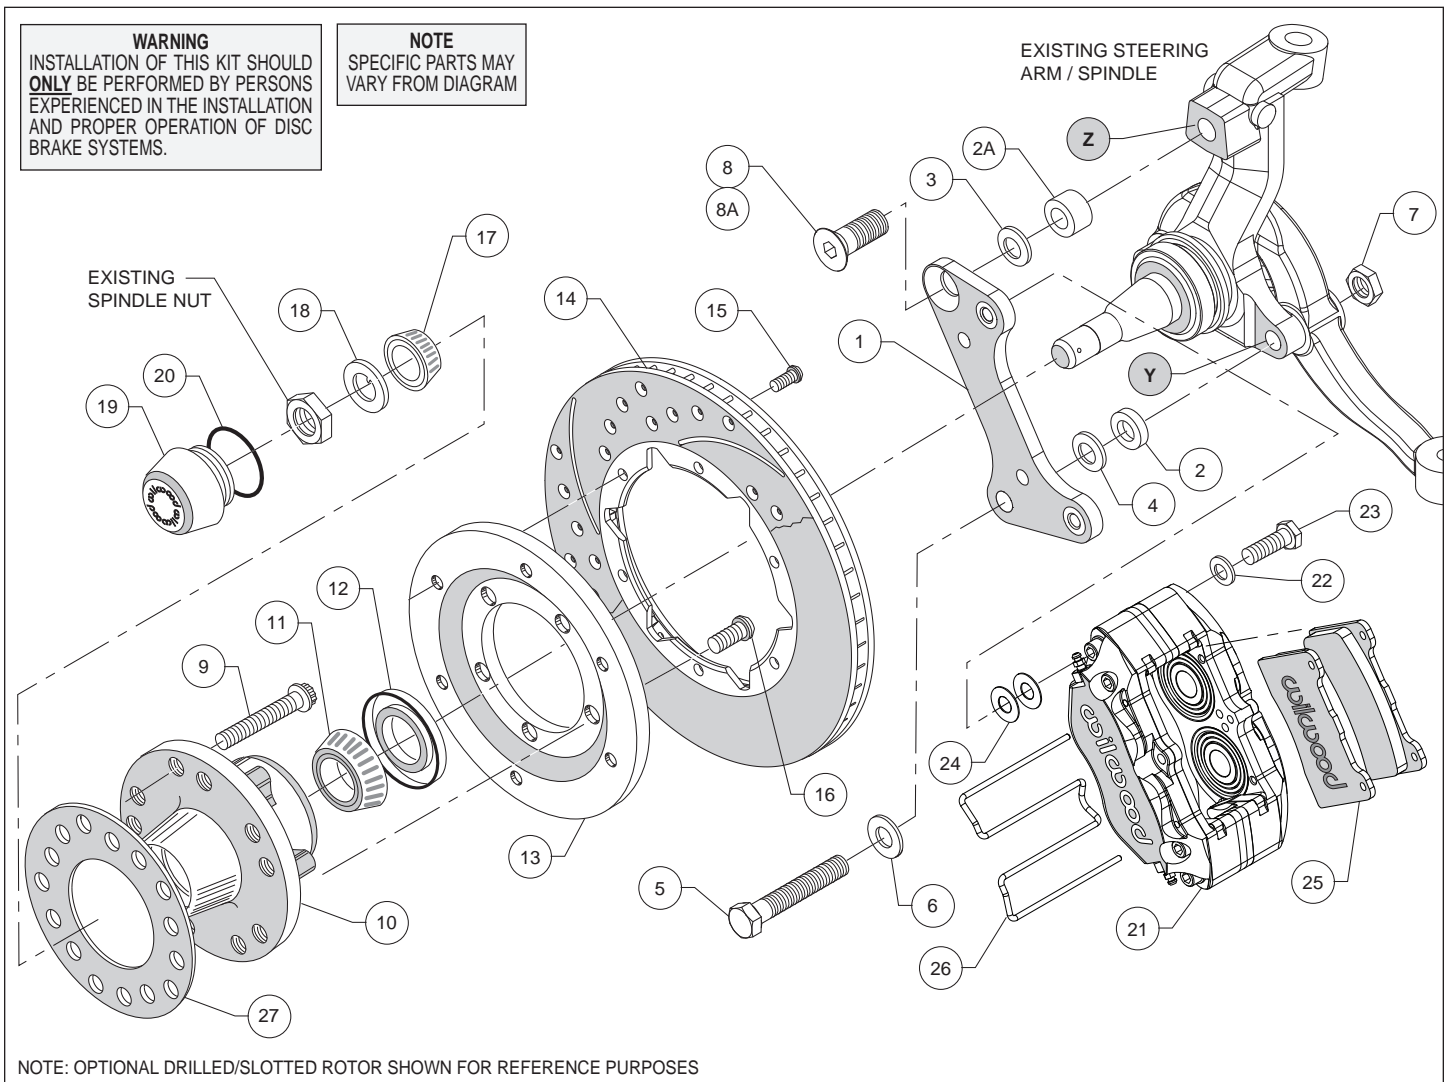
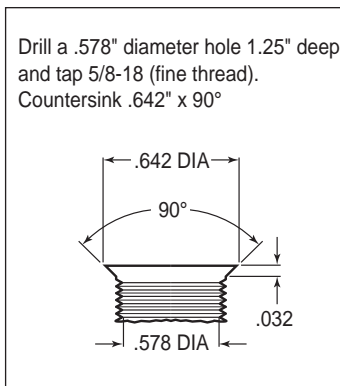

Figure 1. Typical Installation Configuration
Figure 3. Drill and Tap Detail
Assembly Instructions (numbers in parenthesis refer to the parts list and Figure 1 on the preceding page): **CAUTION:** All mounting bolts must fully engage clinch nuts. Be sure to check that all bolts are either flush or protruding through flanged side of clinch nut after shimming, Figure 4.
•**NOTE:** 1964-66 spindles may require the following modifications (reference Figure 1 and Figure 3): Top anchor pin hole (Z) must be drilled and tapped to the dimensions as outlined in Figure 3. Bottom rear steering arm bolt hole (Y) in the spindle and steering arm must be enlarged to .50" by drilling.
- Pack the large inner bearing cone (11) with high temperature disc brake bearing grease (available from your local auto parts store) and install into the backside of the hub (10), Photo 2.
- Install the grease seal (12) by pressing into the backside of the hub (10), flush with the end of the hub, Photo 2.
- Orient the rotor (14) and the rotor adapter (13) as shown in Figure 1 and Photo 3. Attach the rotor to the adapter using bolts (15). Using an alternating sequence, apply red *Loctite*® 271 to the threads, and torque to 25 ft-lb.
- Mount the adapter/rotor assembly (13/14) to the hub (10) using bolts (16), as shown in Figure 1 and Photo 4. Using an alternating sequence, apply red *Loctite*® 271 to the threads, and torque to 55 ft-lb.
- Attach caliper mounting bracket (1) to spindle face using lower bolt (5), washer (6), and a .090" thick spacer (2) positioned between the bracket and the spindle face, as shown in Figure 1 and Photo 5. Secure bolt on the backside of the steering arm with nut (7). Finger tighten. Install upper bolt (8) (for drum spindle) or bolt (8A) with spacer (2A) between bracket and spindle (for disc brake spindle), Photo 6. Ensure that the flanged heads of the clinch nuts in the bracket are facing outboard, Photo 6. Temporarily tighten the mounting bolts and install the new hub/rotor assembly (10/14). Check that the bracket is aligned parallel to the rotor, Photo 7. If not, adjust by adding shim washers (3 and/or 4) between spacers (2 and/or 2A) and the bracket, Figure 1. Once the bracket alignment is correct, remove the bolts one at a time, apply red *Loctite*® 271 to bolt threads, and torque upper bolt (8 or 8A) to 120 ft-lb. and lower bolt (5) to 77 ft-lb.
- Pack the small outer bearing cone (17) with high temperature disc brake bearing grease and install into hub (10). Slide the hub/rotor assembly onto the spindle. Secure using spindle washer (18) and OEM spindle nut, Photo 8. Adjust bearings per OEM specifications. Install saved OEM nut lock (if any) and a new cotter pin (not included).
- Screw dust cap (19) into hub (10). Friction created by the o-ring on the dust cap keeps it from unscrewing. **NOTE:** The O.D. of the existing OEM spindle washer may be larger than the I.D. of the dust cap not allowing it to seat against the hub face. Therefore, use the spindle washer (18) supplied with the kit instead of the OEM washer.
- NOTE:** Please reference the caution statement at the beginning of the assembly instructions. Mount the caliper (21) onto the caliper mounting bracket (1) using bolts (23) and washers (22), as shown in Figure 1. Initially place two .032" thick shims (24) on each bolt between the caliper and the bracket, Photo 9. Temporarily tighten the mounting bolts and view the rotor (14) through the top opening of the caliper. The rotor should be centered in the caliper, Photo 10. If not, adjust by adding